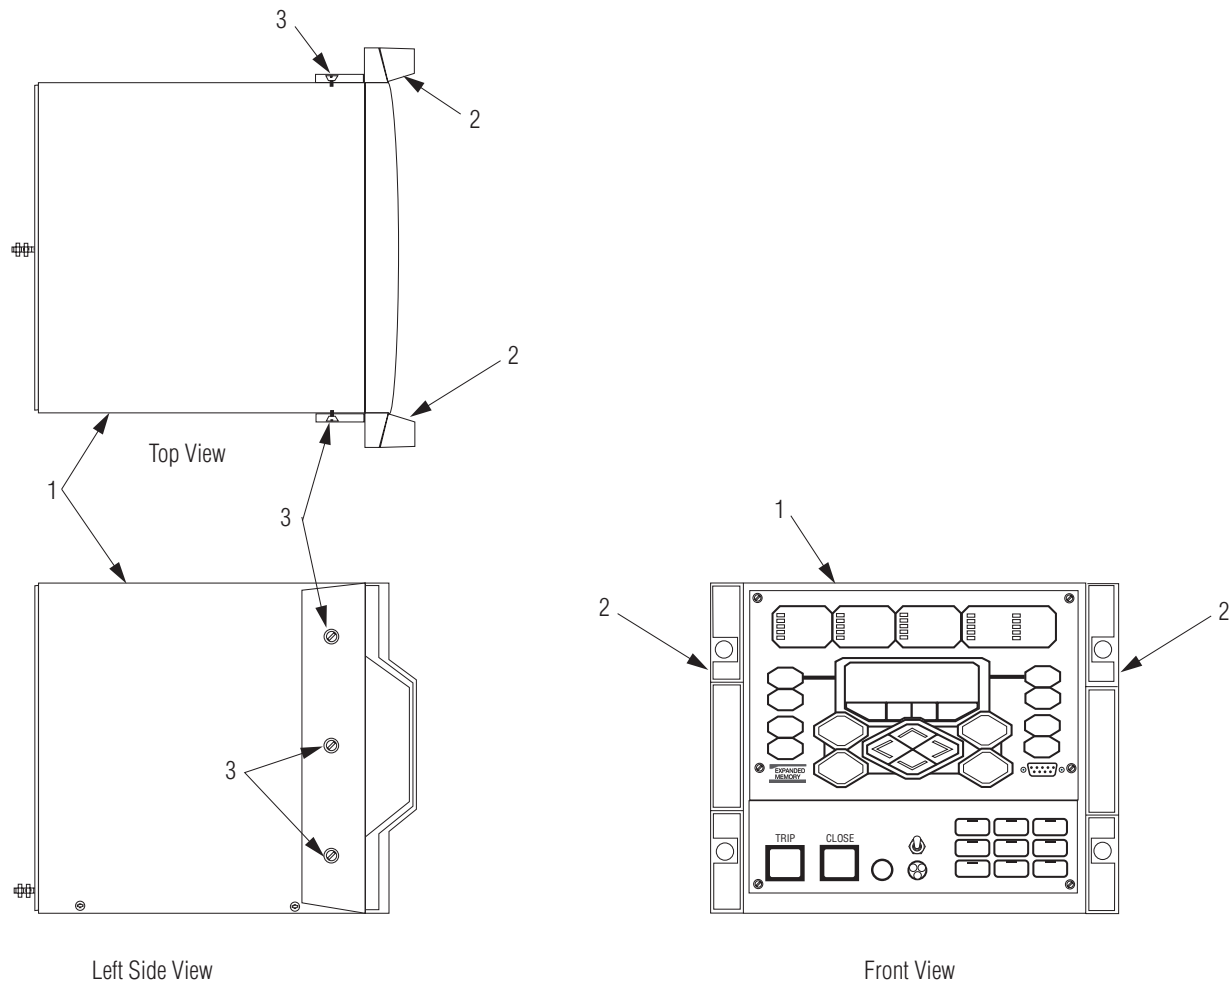

Figure 30. Form 6 single rack mount recloser control
These instructions apply to the attachment of the handles to the Form 6 Single Rack Mount Recloser Control (**Figure 30**).
1. Orient the handles as illustrated in **Figure 30**.
Table 13. Form 6 Recloser Control Single Rack Mount Accessory Handle Attachment Parts List (Figure 30)